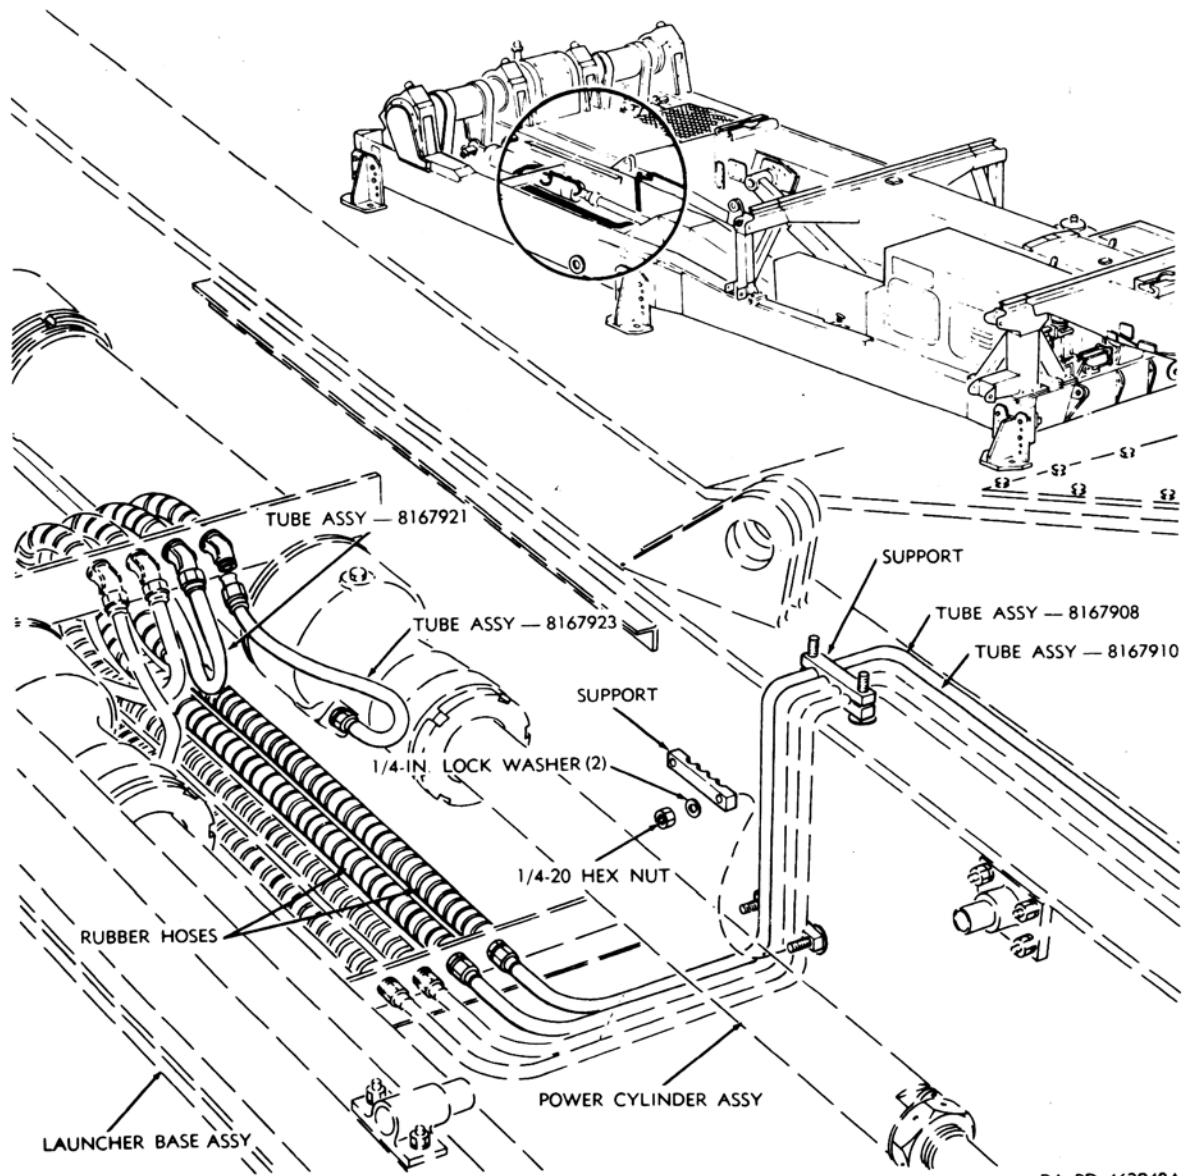

Figure 196. Equilibrator system hydraulic network—removal and installation—continued.
- (4) Remove supports (fig. 196), support clamps (fig. 197), and hydraulic tubing supports securing tube assemblies to be replaced.
- (5) Remove tube assemblies (figs. 196, 197 and 198), tube nipples, reducers and tube tees to be replaced; cap all open lines.
- (3) Install tube assemblies (figs. 196, 197, and 198) tube nipples, reducers,